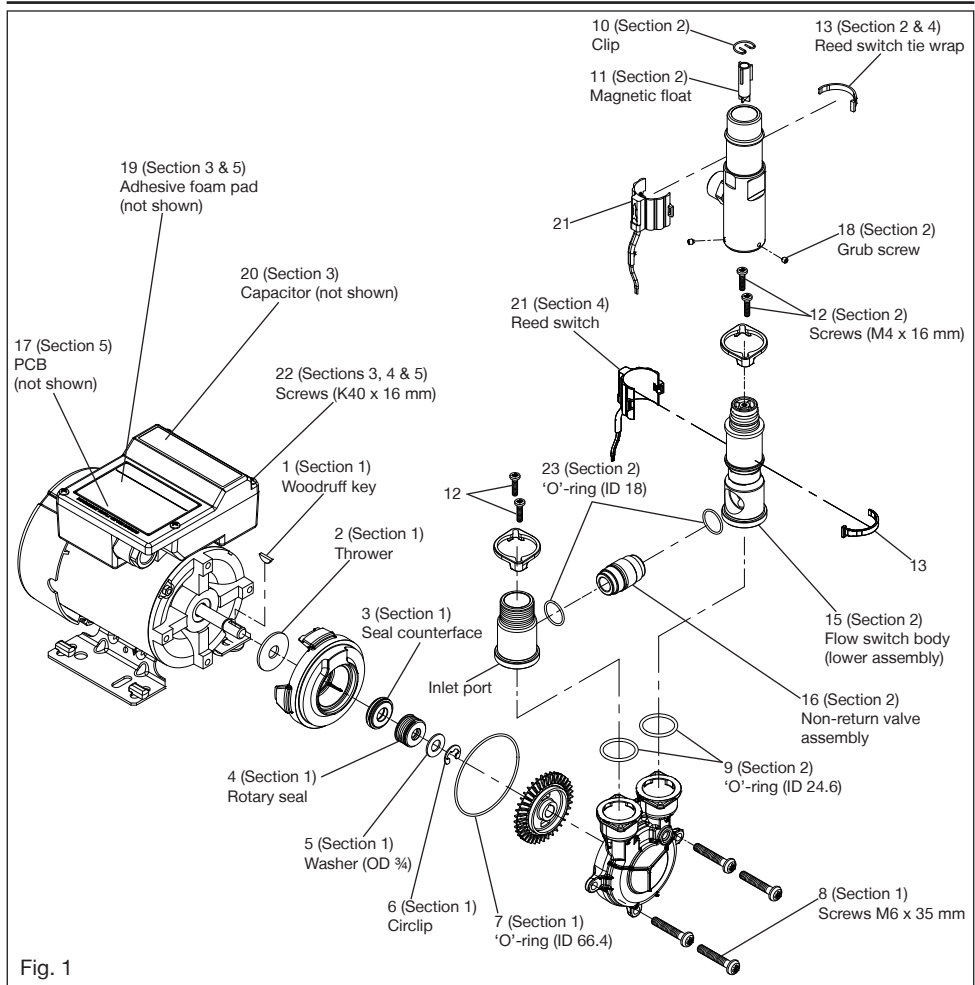

Fig. 1
3. To prepare the pump to accept the service kit parts, each pump part must be removed noting its exact position and sequence (Fig. 1).